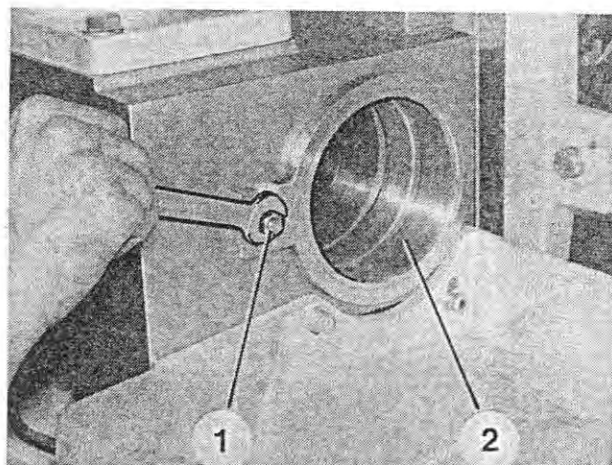

Fig. 211
14. Loosen the hex nuts (Figure 211/1). Turn the intermediate cylinder away from the retainer (Figure 211/2) and pull it out of the dosing case.